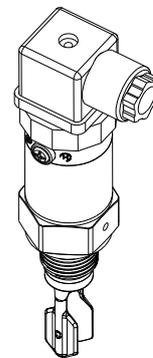

Fig. 16
- (4) After setting the mode, please screw the screws tightly, and reconnect the power. (See Fig. 16)